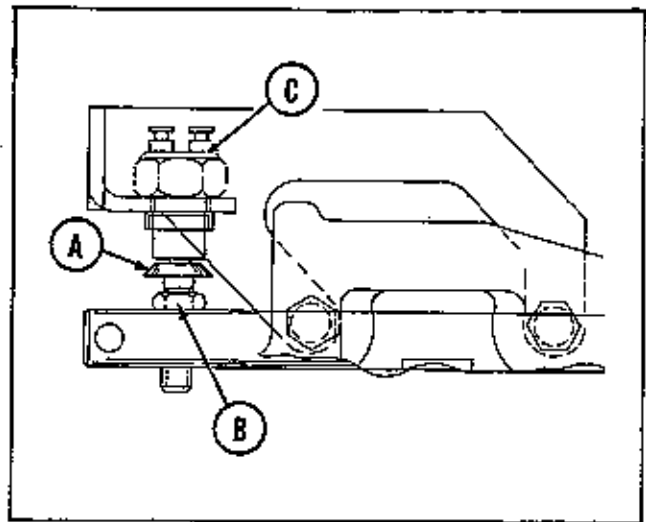

Figure 15. Neutral safety start switch located under seat deck.
3. See figure 15. Adjust carriage bolt (A) to proper height so switch (C) will make contact when transmission is in